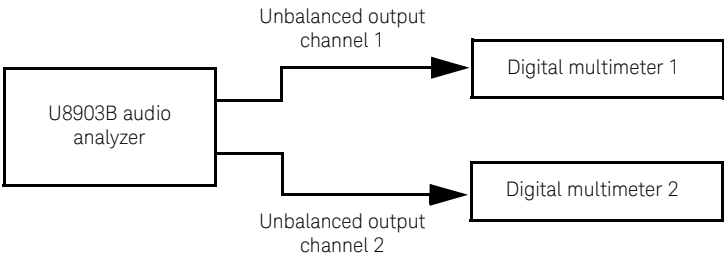

Figure 2-1 U8903B to digital multimeter connections for DC accuracy verification
- 1 Connect the U8903B Unbalanced output channel 1 to the first digital multimeter and Unbalanced output channel 2 to the second digital multimeter as shown in **Figure 2-1**. The BNC-to-banana jack adapter is used for this connection. Preset both the U8903B and digital multimeters.